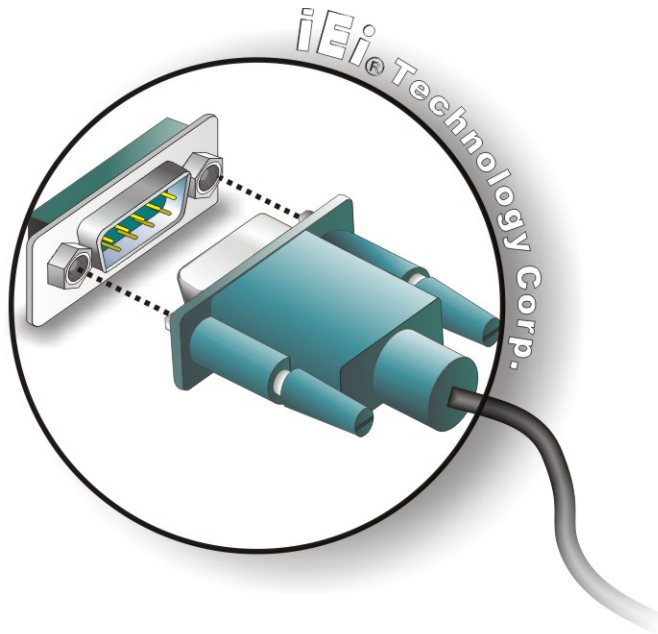

Figure 3-23: DB-9 Serial Port Connector
Step 2: **Insert the serial connector.** Insert the DB-9 connector of a serial device into the DB-9 connector on the bottom panel. See **Figure 3-23**.